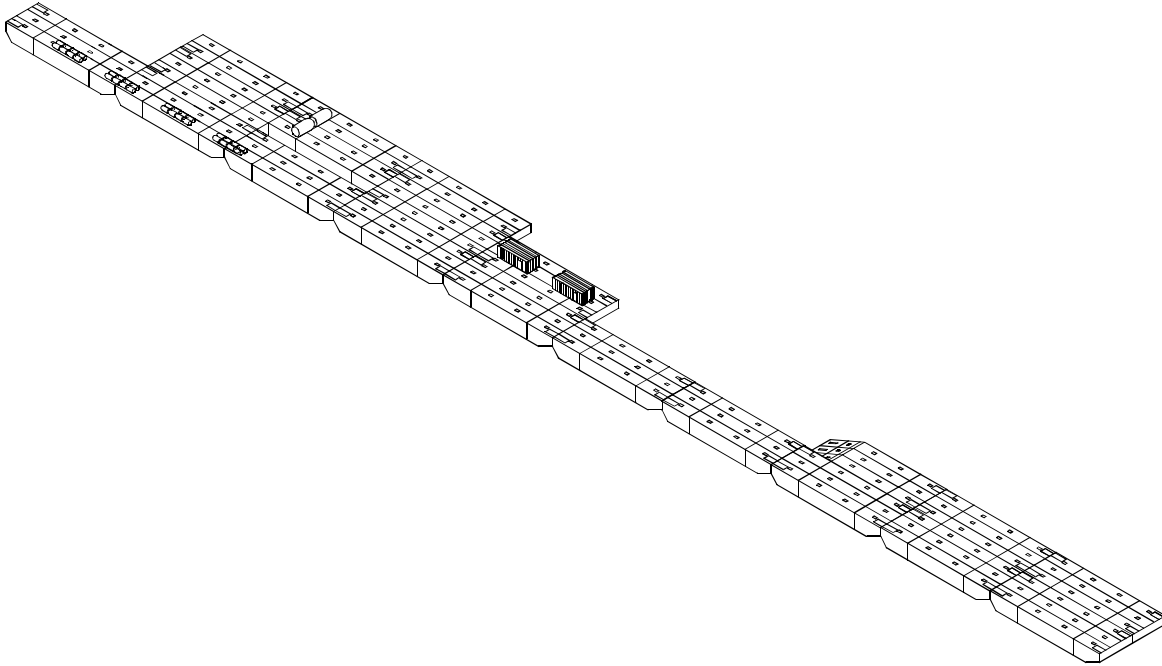

Figure 1. FC Towing Configuration
3. Position FC intermediate sections, as required, into a towing configuration using a WT (figure 1).